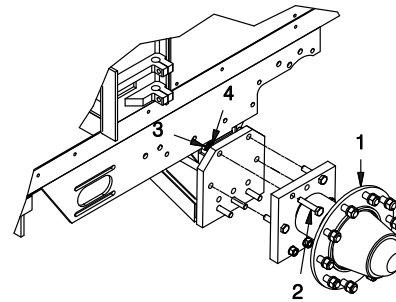

Figure 1 - Mounting Hub to Axle
A. Place (7) R13806355 Bolts through the axle and spindle as shown in Figure 1. Place (1) SPN1024150 Spindle onto the axle as shown in Figure 1. Torque all nuts and bolts as per torque chart on page 1.